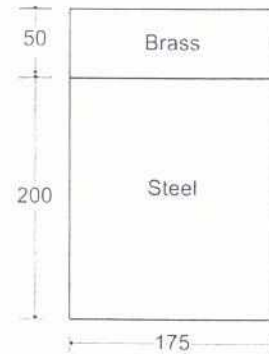

Figure 3b
- (b) The composite beam is made of steel bonded to brass and has the cross section as shown in **Figure 3b**. If the allowable bending stress for the steel is  $180 \text{ MPa}$  and the allowable bending stress for the brass is  $60 \text{ MPa}$ , determine the maximum moment ' $M$ ' that can be applied to the beam. Given  $E_{\text{brass}} = 100 \text{ GPa}$ ,  $E_{\text{steel}} = 200 \text{ GPa}$ . (10)